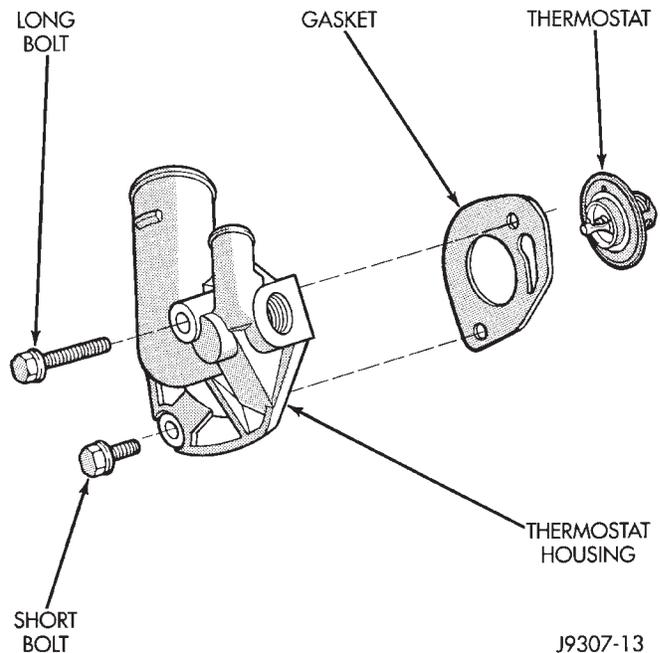

Fig. 38 Thermostat Removal/Installation—4.0L Engine
- (2) Remove radiator upper hose and heater hose at thermostat housing.
- (3) Disconnect wiring connector at engine coolant temperature sensor.
- (4) Remove thermostat housing mounting bolts, thermostat housing, gasket and thermostat (Fig. 38). Discard old gasket.